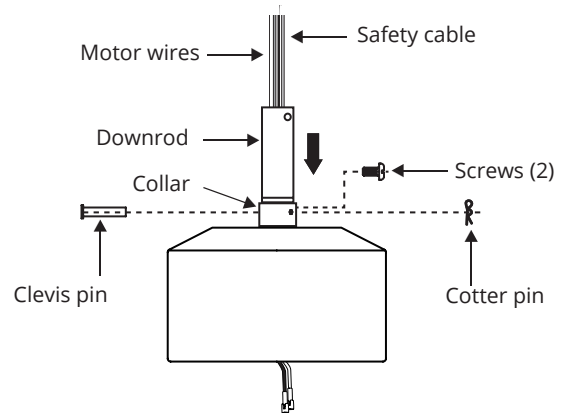

FIGURE 9
2. Remove the clevis pin and cotter pin, and loosen the two collar screws from the motor collar. (Fig. 9)
4. Align the holes of downrod and collar and insert the cotter pin and clevis pin. Tighten the two collar screws. (Fig. 9)